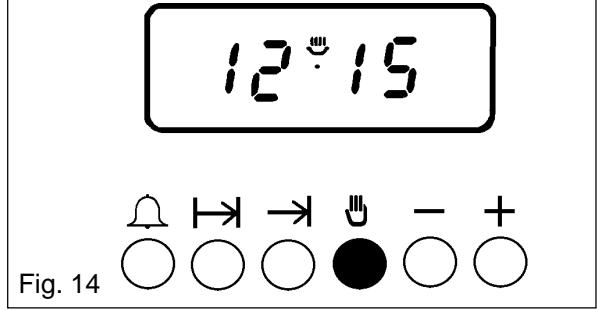

Fig. 14
- iii) Press ( ) button. See Fig. 14. The AUTO display goes out and the cookpot symbol will show.